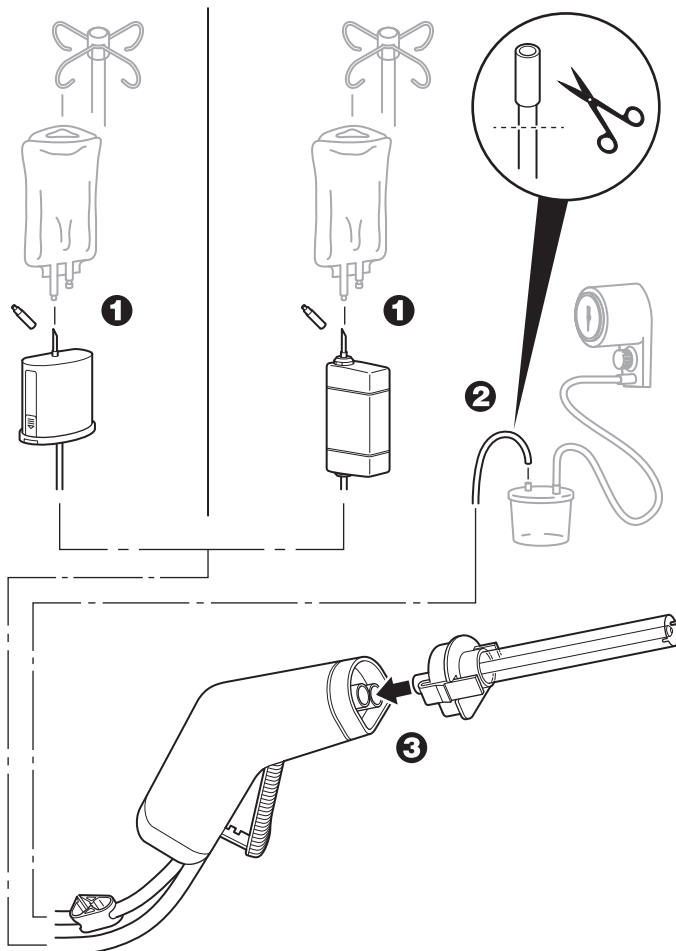

Figure 1 – To Assemble the Handpiece
- Using aseptic technique, remove the irrigation tube spike cap from the handpiece irrigation tubing and install the irrigation tube spike into the irrigation bag aseptic peel port (figure 1).